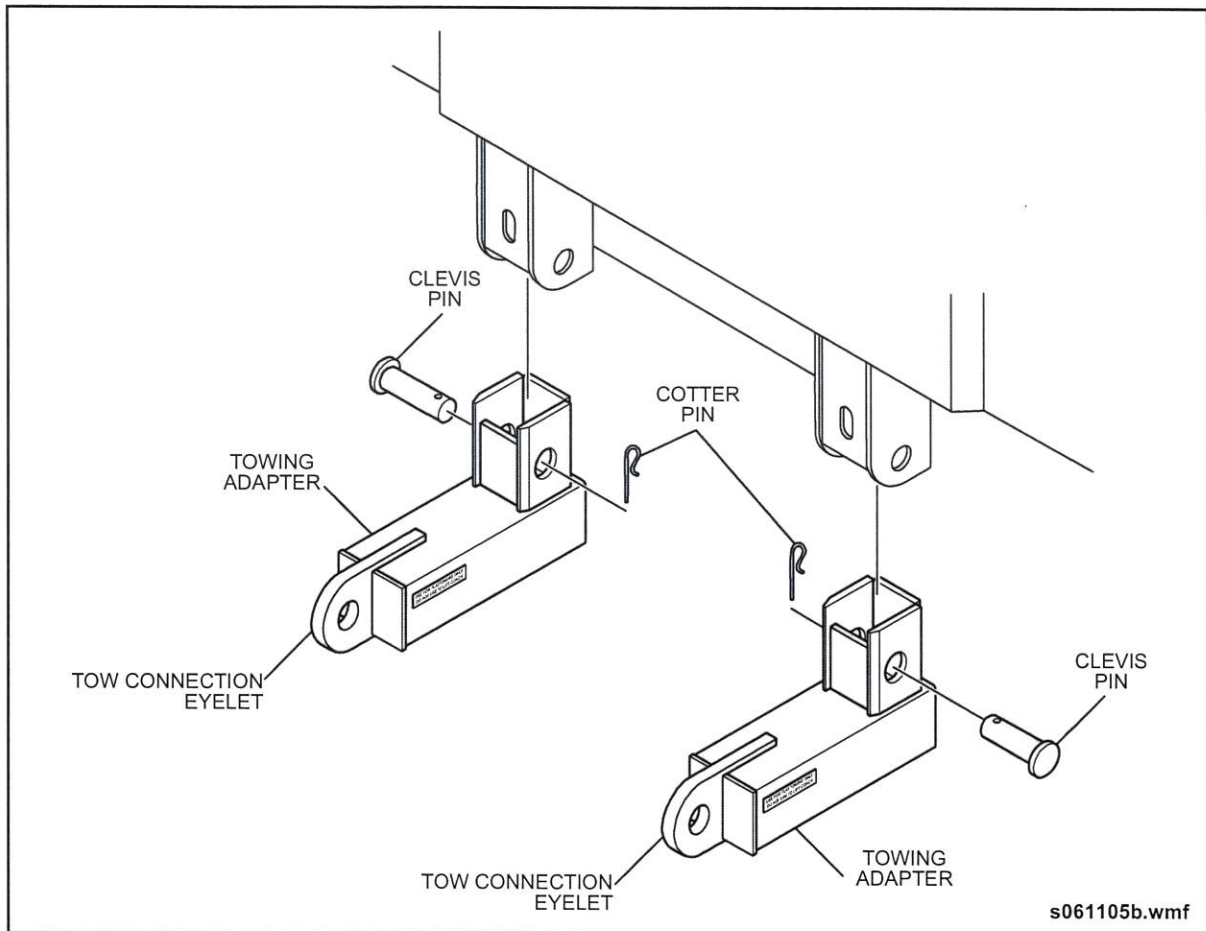

Fig. GI-23: Towing Adapter
1. Install each tow adapter into a receiver and locate with a clevis pin. See "Fig. GI-23: Towing Adapter" on page 43.